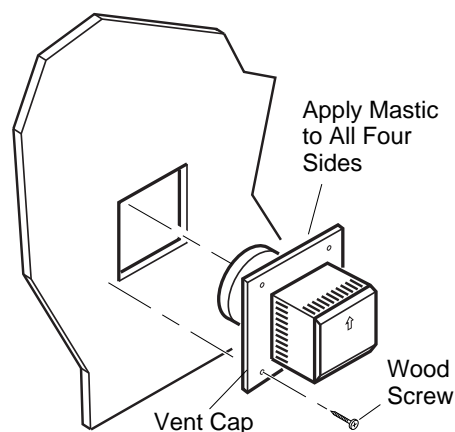

Figure 14 - Installing Horizontal Vent Cap
4. Apply a bead of non-hardening mastic around the outside edge of the vent cap. Position the vent cap in the center of the 7 1/2" or 10" hole on the exterior wall with the arrow on the vent cap pointing up. Insure proper clearance of 1" to combustibles is maintained. Attach the vent cap with four wood screws supplied (see Figure 14). **Note:** Replace the wood screws with appropriate fasteners for stucco, brick, concrete, or other types of siding.